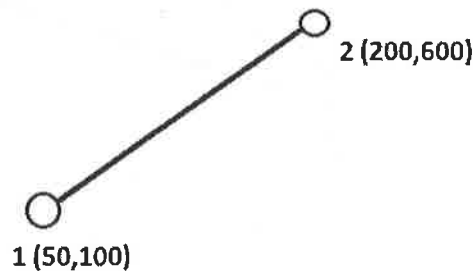

Fig .1
2. Determine (i) [K] (ii) [B] for the truss element shown in fig. 1